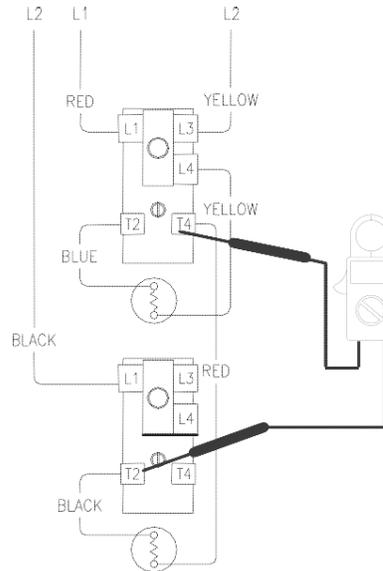

Figure 27
7. Check voltage across terminal T4 of upper thermostat & T2 of lower thermostat. (see Figure 27).
5. Check across terminals T4 of upper thermostat and T2 of lower thermostat (see Figure 27 above).